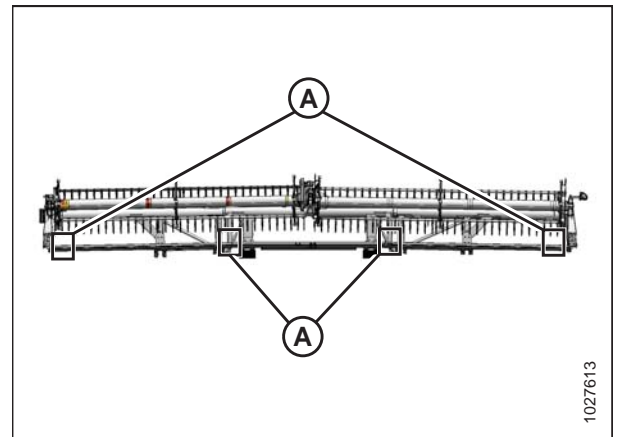

Figure 6.54: Measurement Locations
- Figure 6.54, page 143 – FlexDraper® Header